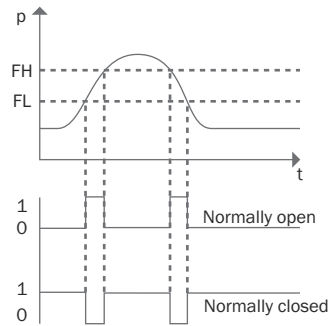

Figure 6: Window mode
The window mode is used to monitor a defined pressure range. If the system pressure is between the lower window limit (FL) and upper window limit (FH), the output will be active (normally open contact, n.o.) or deactivated (normally closed contact, n.c.) (see figure 6, page 49).